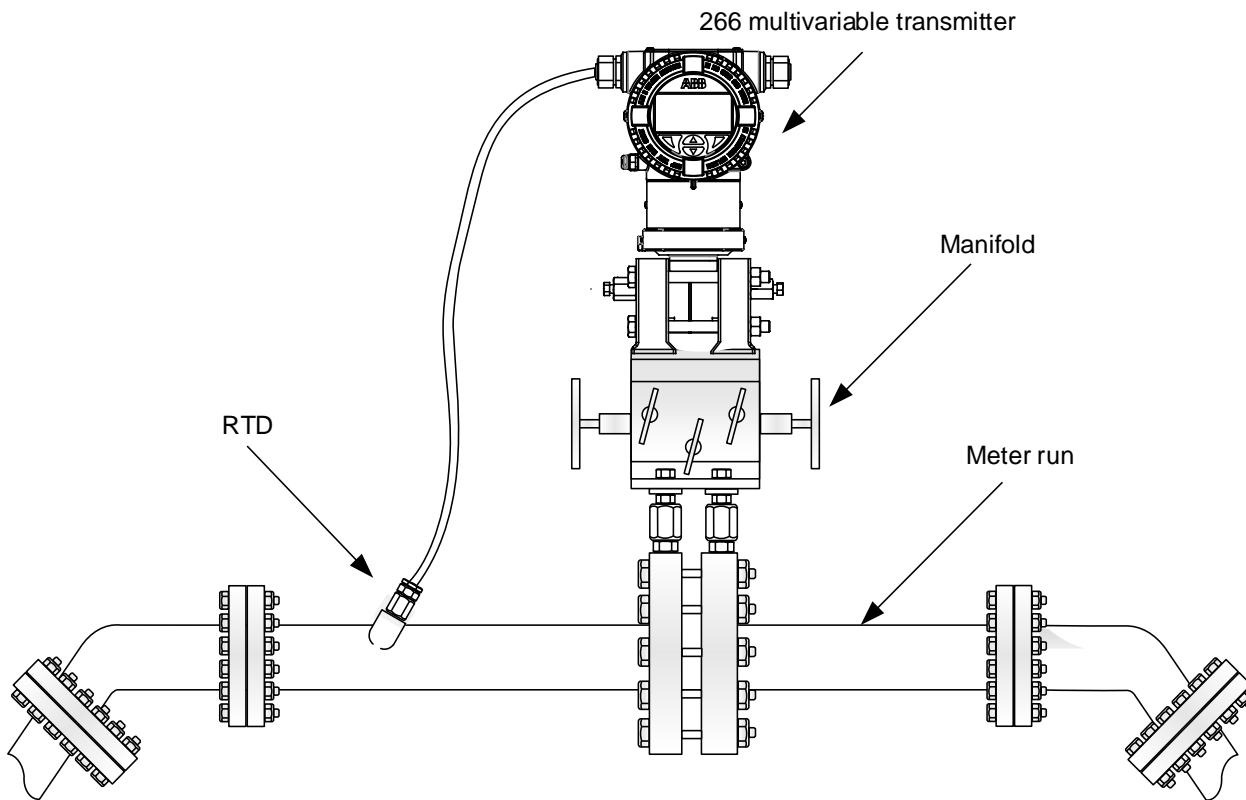

Figure 14: Vertical flange assembly, direct mount (for illustrative purposes only)
1. Determine where the transmitter is to be placed on the meter run so that the high side (+) is upstream (Figure 14).